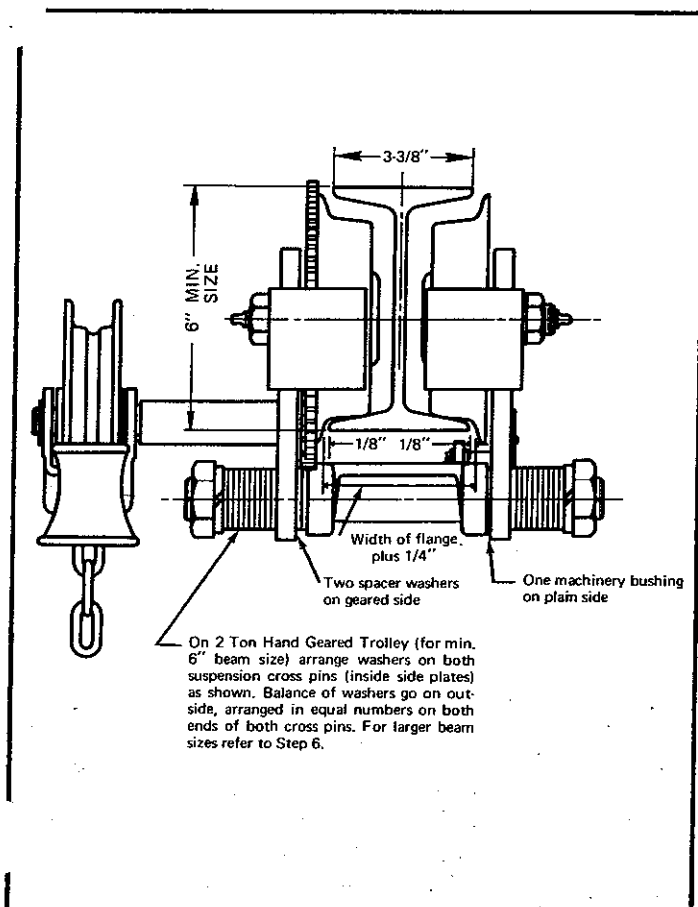

Figure 7. 2 Ton Hand Geared Trolley
* Machinery bushing (illustrated in Figure 7) is not included in quantities given here, but must be used on this side for all flange sizes.